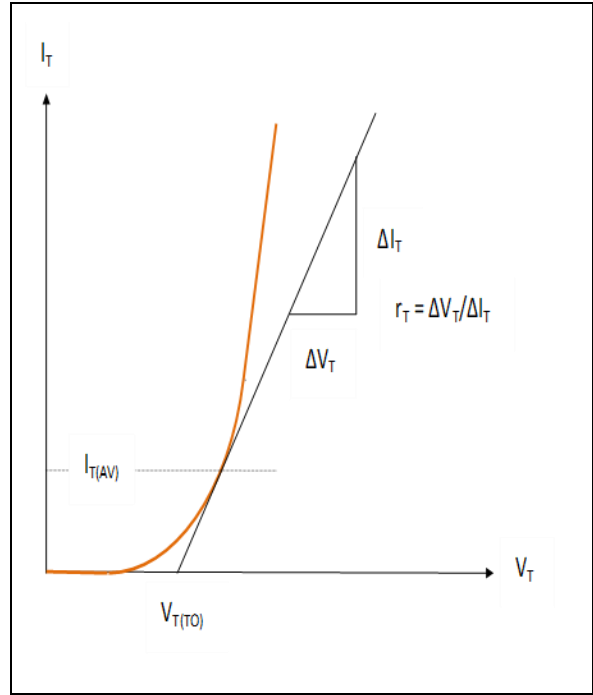

Fig. 18 $V_{T(TO)}$ and r_T @ tangent to $I_{T(AV)}$
The linear approximation of the on-state characteristics of a thyristor is modelled by a straight line (piece-wise linear model) defined by an intercept on the x-axis $V_{T(TO)}$ (called the threshold voltage) and an inverse slope of the line r_T (called the slope resistance) as shown in Fig. 18. The construction of the straight line leads to different definitions. Here are four variations:
1. As illustrated in Fig. 18, where the line is tangent to the IV curve at the average current.